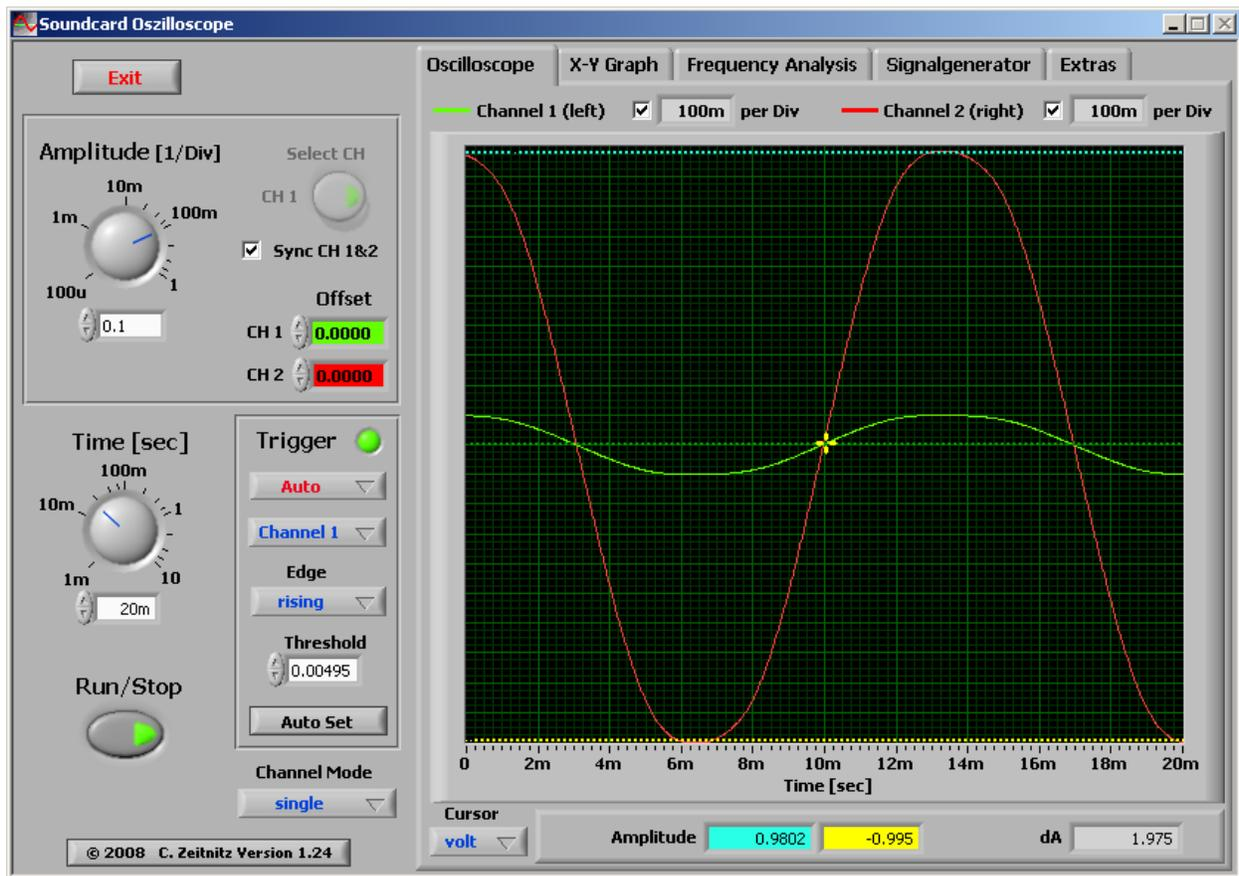

Figure 4: Initial calibration waveform
14. Set the Channel 2 attenuator to 1x and set the left attenuator for 10x (Refer to 2(a), above). The resulting waveform, displayed in the Zeitnitz Oscilloscope tab, should look like figure 4. If your waveform is not similar, check your circuit for wiring errors and retrace your steps in this experiment. If you still can’t find the problem, consult with your teaching assistant or instructor.